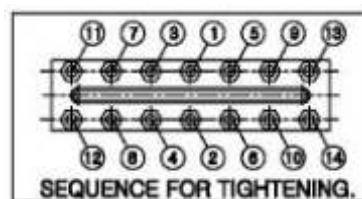

Figure 1.
2) When some leakage occurs on the level gauge close upper (A) and lower (B) valves and open drain valve to depressurize the interior of the level gauge. Carry out bolting in accordance with Figure 1.
2) After warming up, close upper valve (A) and carry out bolting in the sequence shown in the figure 1.
3) Open again upper valve (A) a half revolution, continue warming up for 5 minutes.
4) After warming up, close drain valve (C), fully open upper (A) and lower (B) valves.
- 1) Install gasket(5) gauge glass(2) cushion(4) and gauge cover(3) to gauge body(1).
- 2) Insert bolt(6) to center positioned hole of gauge cover(3) and screw up nuts(7,8) softly.
- 3) Insert two bolt(6) to adjacent hole and screw up nuts(7,8) in softly after adjusting correct position of gasket(5) and gauge glass(2).
- 4) Insert the reset of bolts(6) and nuts(7,8).
5. Screw up all nuts(7,8) in accordance with the sequence for tightening cover bolts(fig. 1)